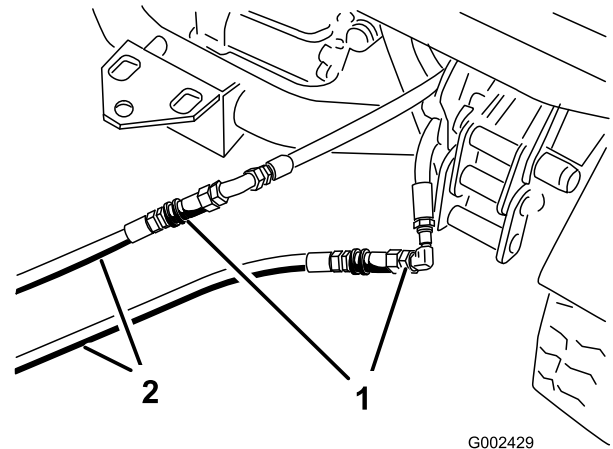

Figure 80
- On the disabled vehicle, connect the two jumper hoses to the hoses that were disconnected (Figure 80). Cap unused fittings.